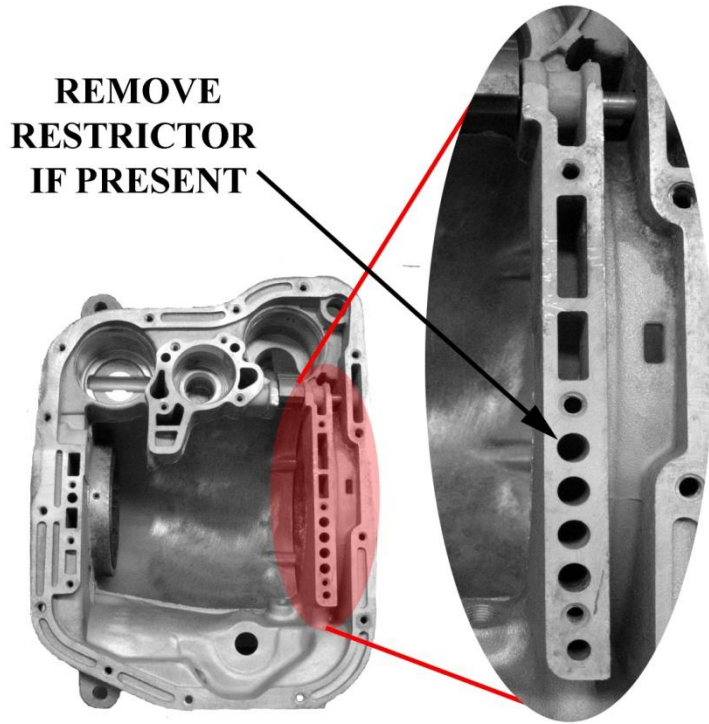

Figure 1
8. **NOTICE** Remove park rod and clip from original valve body, re-install park rod and clip on new valve body. Remove and discard accumulator spring. Check for restrictor plug in front clutch apply hole in case, (see figure 1), remove restrictor if there is one. Re-install new valve body, torque mounting bolts (ten each) to 100 inch lbs. Install the electrical connector in $\frac{1}{4}$ " NPT hole. Connect solenoid wire to connector wire, install filter and pan.